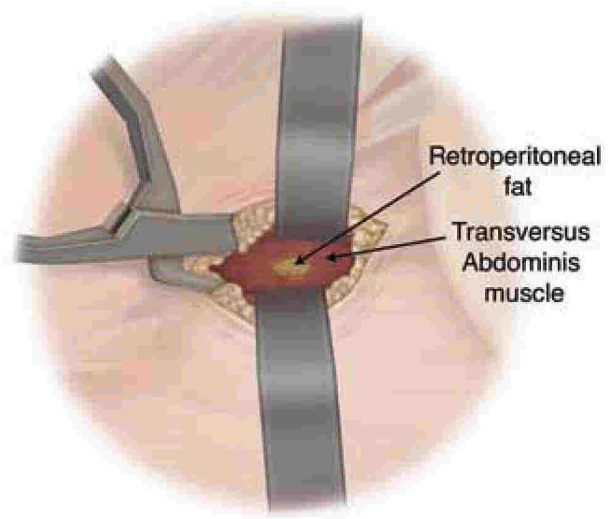

Figure 9
- Step 2** The external oblique fascia will be the first plane encountered and is the only layer that will need to be sharply incised. A Kelly Clamp is then used to bluntly spread through the fibers of the external oblique, internal oblique and transversalis muscles. All dissection is done in line with the muscle fibers as these muscles layers run in opposite directions. After bluntly penetrating the transversalis fascia, the yellow retroperitoneal fat is exposed (**Figure 9**).